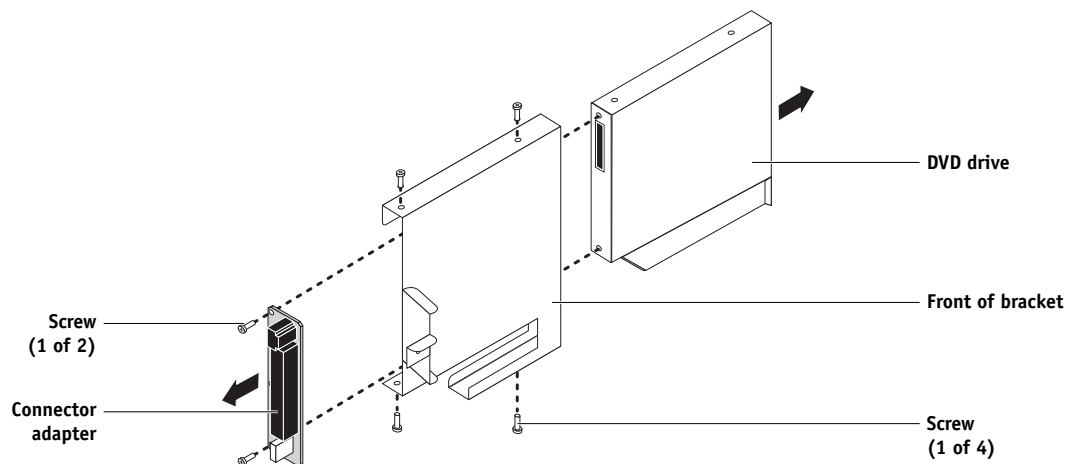

FIGURE 4-32 Removing the DVD drive from the bracket
1. **Remove the two screws that attach the connector adapter to the DVD drive, and then remove the connector adapter from the DVD drive (see Figure 4-32).**
2. **Replace the four screws that attach the DVD drive to the bracket (see Figure 4-32).**